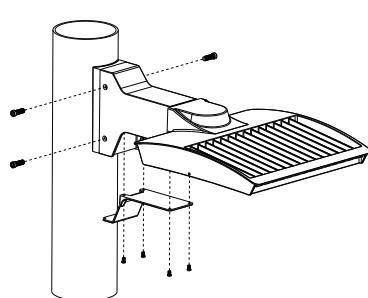

FIG. 4
3. Tighten the four (4) M8 bolts on the arm and secure it to the adapter. Connect the power leads properly according to the wiring diagrams above. Make wiring connections inside the arm, and tighten the bottom cover with the four (4) M4 screws (see **FIG. 4**). The wiring connections can also be made inside of the pole.